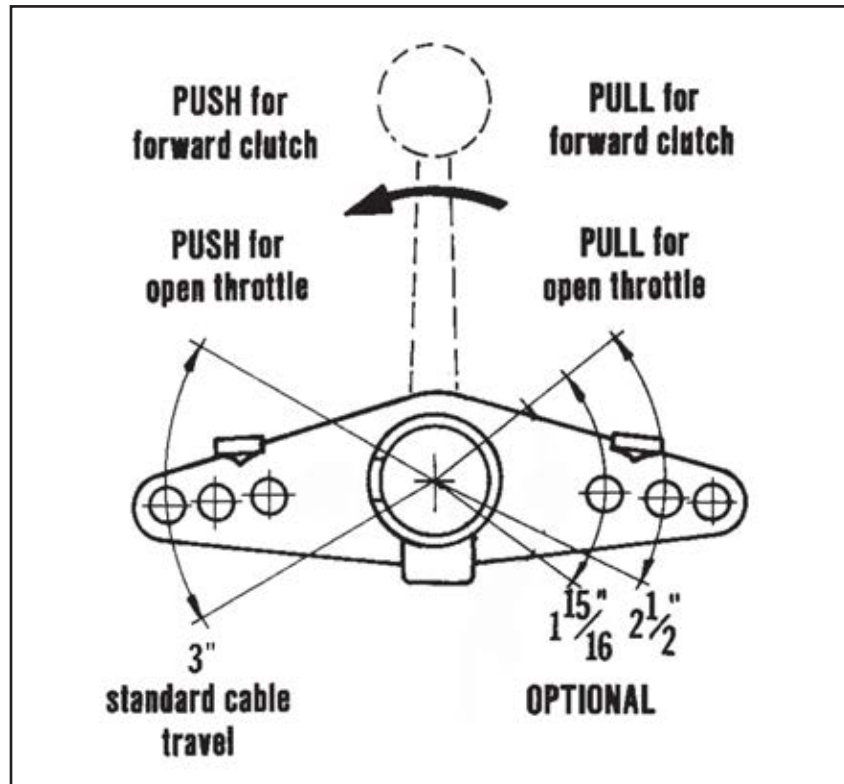

Figure 2.
*Push is toward the bow and Pull is toward the stern. See Figure 2. The other holes are for special applications only. Do not use these holes unless they are specified by the instructions packaged in the kits.*